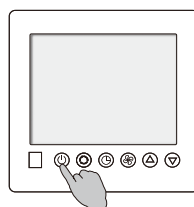

fig.7
4. Press ON/OFF button to quit customer-reading state to #17, then press ON/OFF button to quit customer-setting state.(See fig.7)